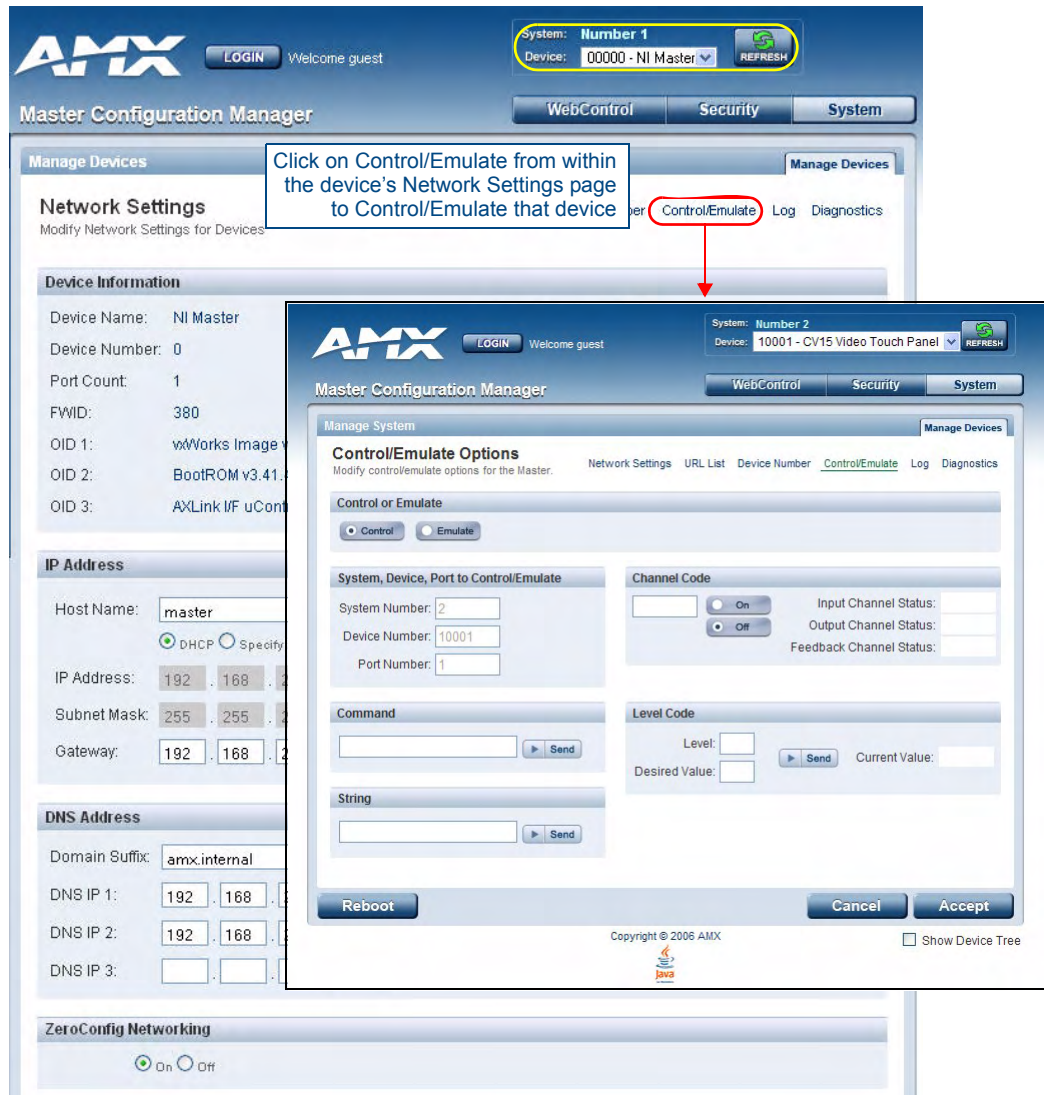

FIG. 3 Select Control/Emulate from within a selected Device's Network Settings page
- c. Click on the *Control/Emulate* link. This opens a Control/Emulate Options page for the selected device (FIG. 3).